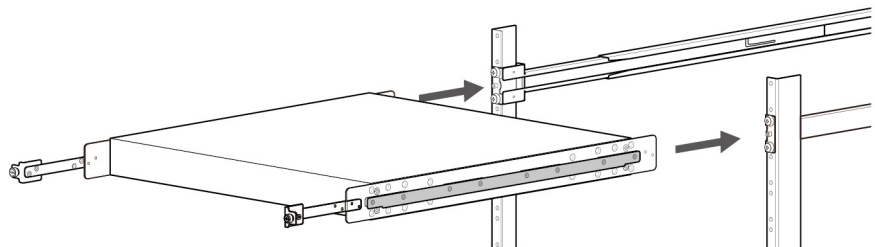

Figure 19. Slide Inner Rails into Outer Rails
7. With the inner rails attached to the switch, slide the inner rails into the outer rails. Ensure the inner rails are securely in the outer rail grooves when sliding in the inner rails. See Figure 19.